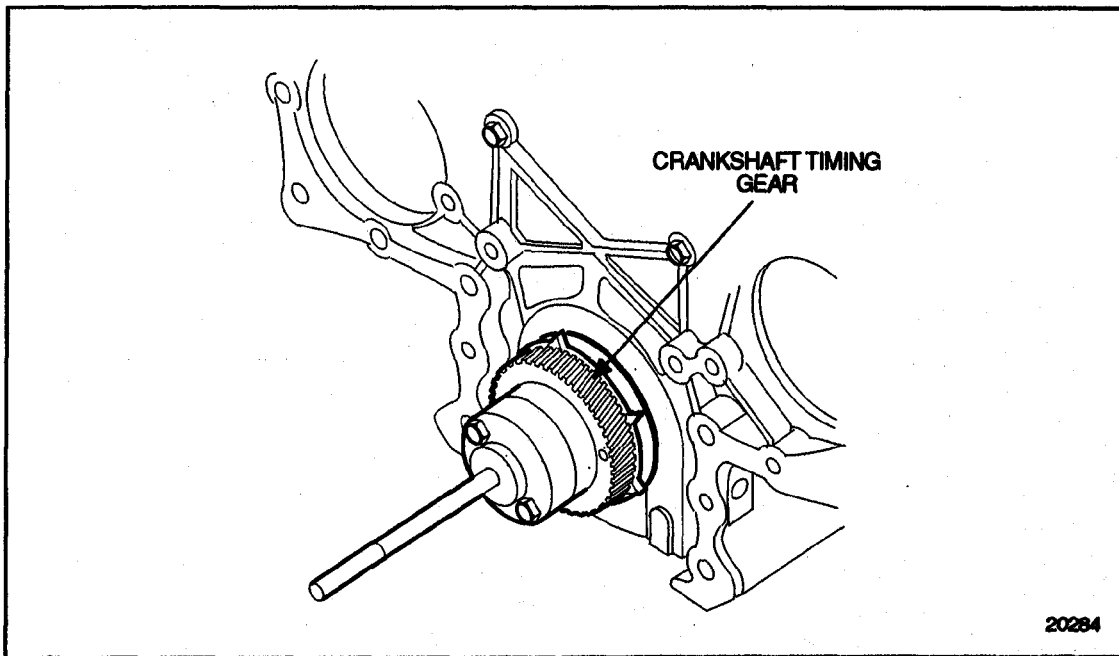

Figure 1-394 Crankshaft Timing Gear Indexing
5. Index the keyway of the crankshaft timing gear with the Woodruff key in the crankshaft. Tap the gear with a plastic hammer or fiber mallet, to ensure that the key is started in the keyway. See Figure 1-394.